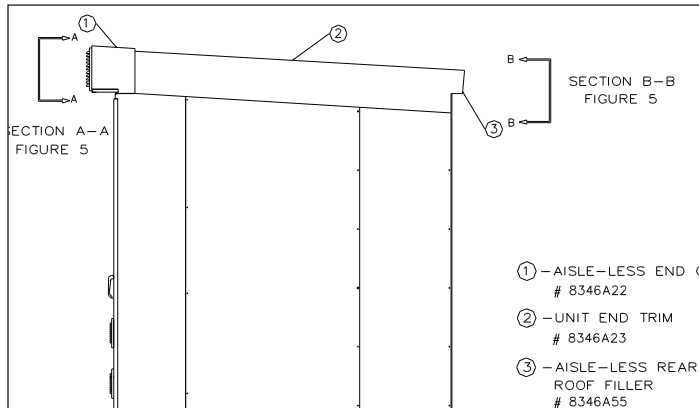

Figure 13. End Trim Cap and End Trim for 5 kV through 27 kV Structures.
2. Remove any overhanging end caps, end trim, and seam covers from the groups of switchgear. These will be replaced at a later time. Figures 13 through 16 show the placement of the end caps, end trim, and seam covers that may need to be removed and replaced during assembly.
- Install the seam covers and roof fillers. Install the filler pieces and unit seam covers using proper hardware from the detail box. If unit end trim is not on each end of the shipping group, install at this time using proper hardware from the detail box. Refer to Figures 13 through 16 for the placement of these items.
- Remove any overhanging end caps, end trim, and seam covers from the groups of switchgear. These will be replaced at a later time. Figures 13 through 16 show the placement of the end caps, end trim, and seam covers that may need to be removed and replaced during assembly.